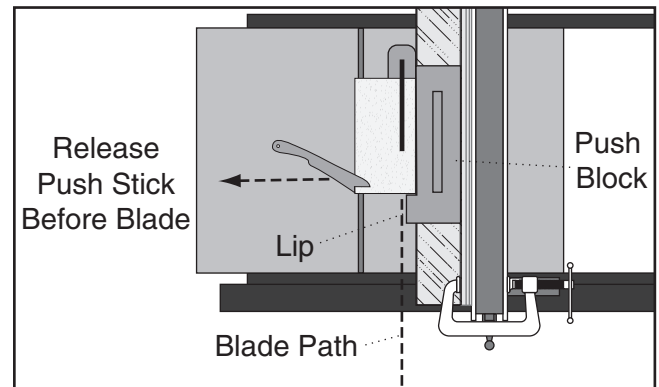

Figure 134. Example illustration of ripping with push block.
6. Guide workpiece rest of the way through cut with push block, as shown in **Figure 134**.